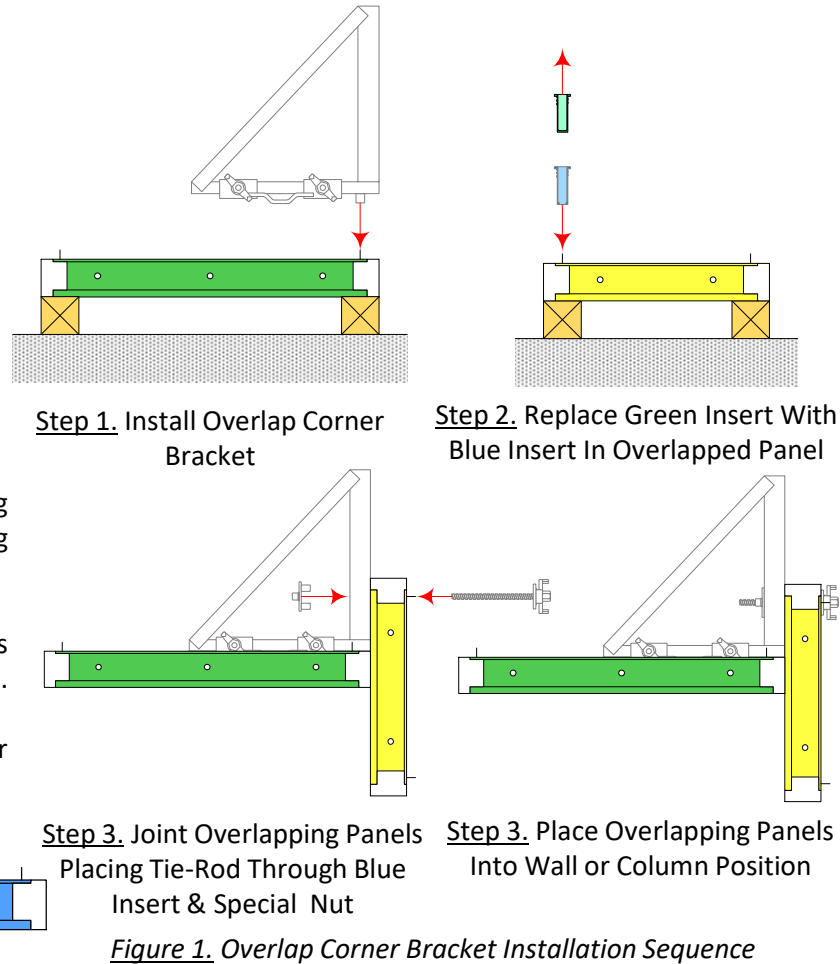

Figure 1. Overlap Corner Bracket Installation Sequence
- See Figures 1. & 4. for installation sequence
- Make sure the double pegs on the special nut are facing toward the overlap bracket tube and insert into the aligning holes when the tie-rod is tightened. (See Figure 1., Step 3.)